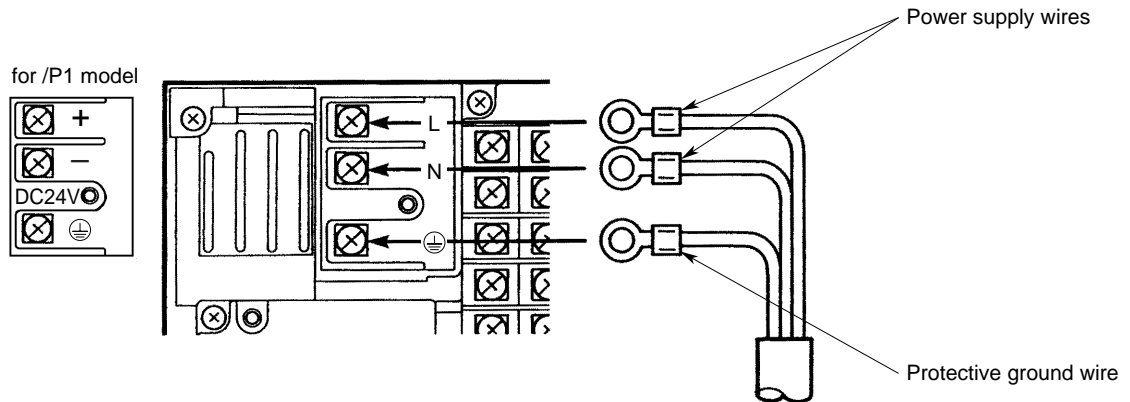

Figure 3.4 Power Supply Wiring
- 2 Connect the power supply wires and the protective ground wire to the power terminals and the ground terminals as shown in figure 3.4.